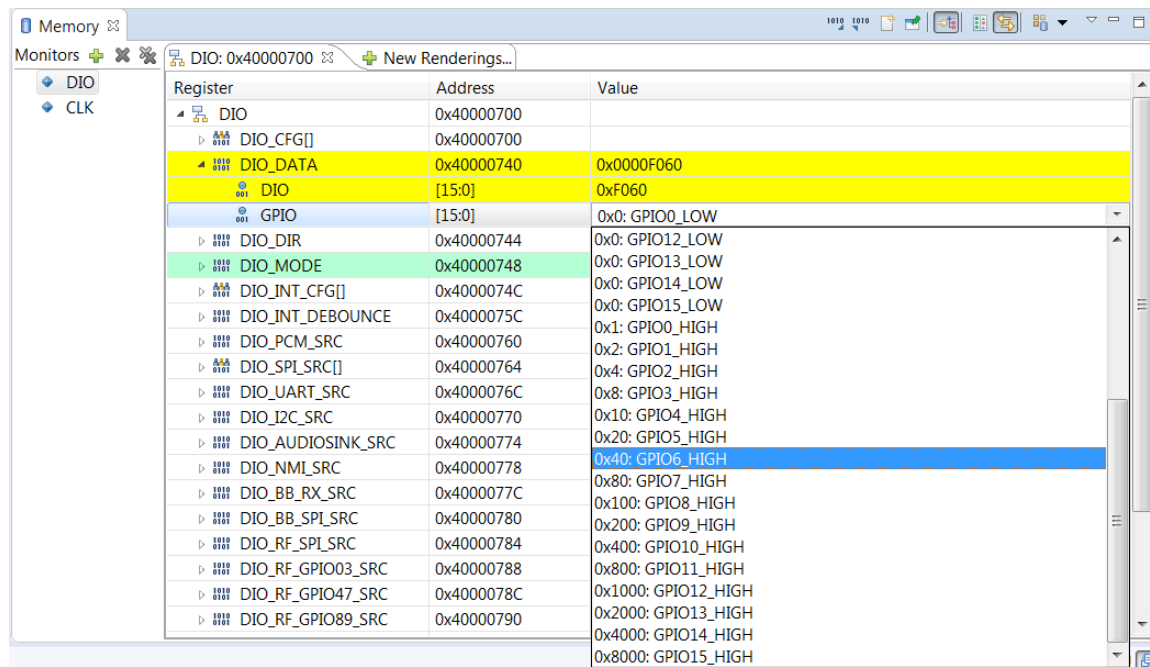

Figure 15. Toggling RSL10 DIO Using the Peripheral Registers View
4. Select the peripheral that you need to monitor, and open the **Memory** window to show the RSL10 peripheral registers. The read only registers are highlighted in green. If you wish, you can drag your Memory window and place it side-by-side with your source code view (see Figure 15 on page 18).
- Click on the **Value** tab of the **GPIO** register to change the (**HIGH/LOW**) state of GPIO6, as shown in Figure 15. You can observe that the LED (DIO6) on your board changes its state.